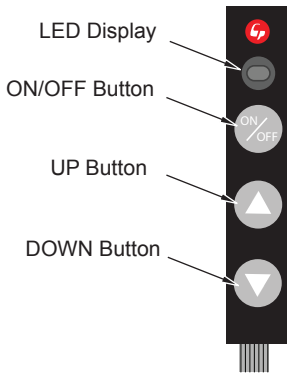

Figure 76 - Touch Pad Control
This touch control has only 3 buttons for controlling manually the flame of the appliance (see Figure 76).
1. To increase the flame level, press the up button (▲). A beep and a flash of the LED indicate that the system has accepted the order, and the flame will increase instantly (see Figure 76).
2. To decrease the flame level, press the down button (▼). A beep and a flash of the LED indicate that the system has accepted the order, and the flame will decrease instantly (see Figure 76).